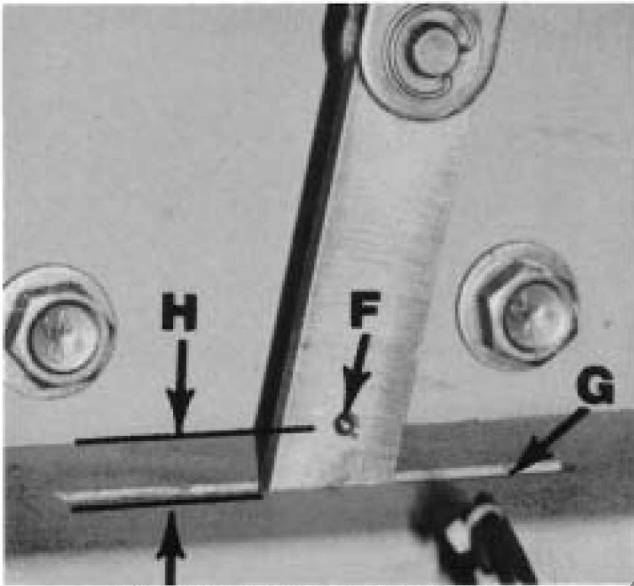

Figure 14: Measuring Contact Wear
12. Use the manual charging handle to barely hold the arcing contacts closed (the moment the light comes on). Observe the red wear dot on the opening spring guide (figure 14). For a new interrupter, dimension "H" measures 41 inches (10.5 mm).
If the bottom edge of the red dot (marked "F" in figure 14) is at or below the top of the frame (marked "G"), the arcing contacts are worn out. All three interrupters should be replaced as a set (no adjustment exists).